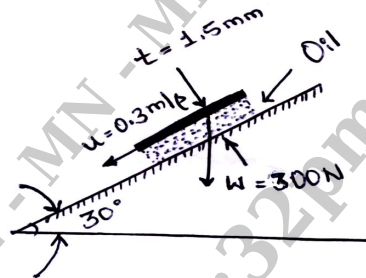

Fig.Q1(b)
- b. Calculate the dynamic viscosity of an oil, which is used for lubrication between a square plate of size $0.8\text{m} \times 0.8\text{m}$ and an inclined plane with angle of inclination 30° as shown in Fig.Q1(b). The weight of the square plate is 300 N and it slides down the inclined plane with a uniform velocity of 0.3 m/s . The thickness of oil film is 1.5 mm .